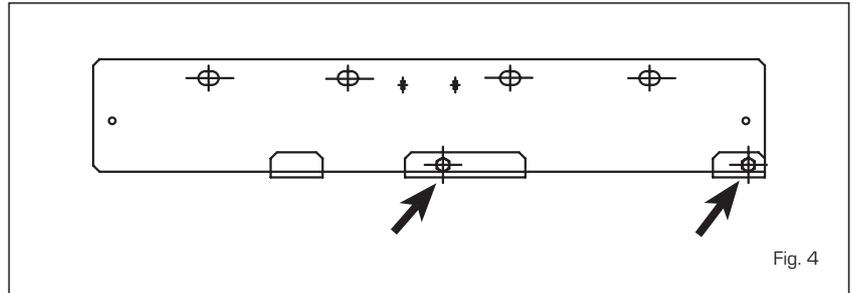

Fig. 4
- Hang the boiler and then tighten the screws indicated in fig 4.